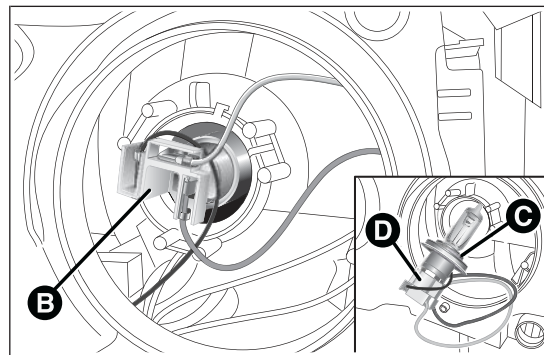

fig. 128
- ☐ push the connector + bulb holder unit B fig. 128 downwards;